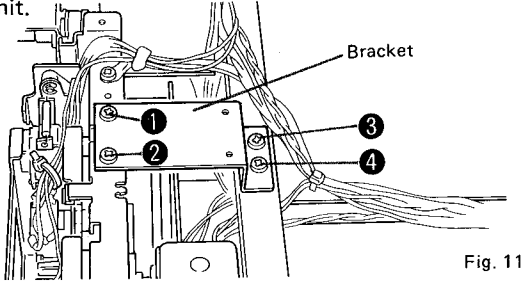

Fig. 11
1. Remove the screws ① to ④ in Fig. 11 and then remove the bracket.